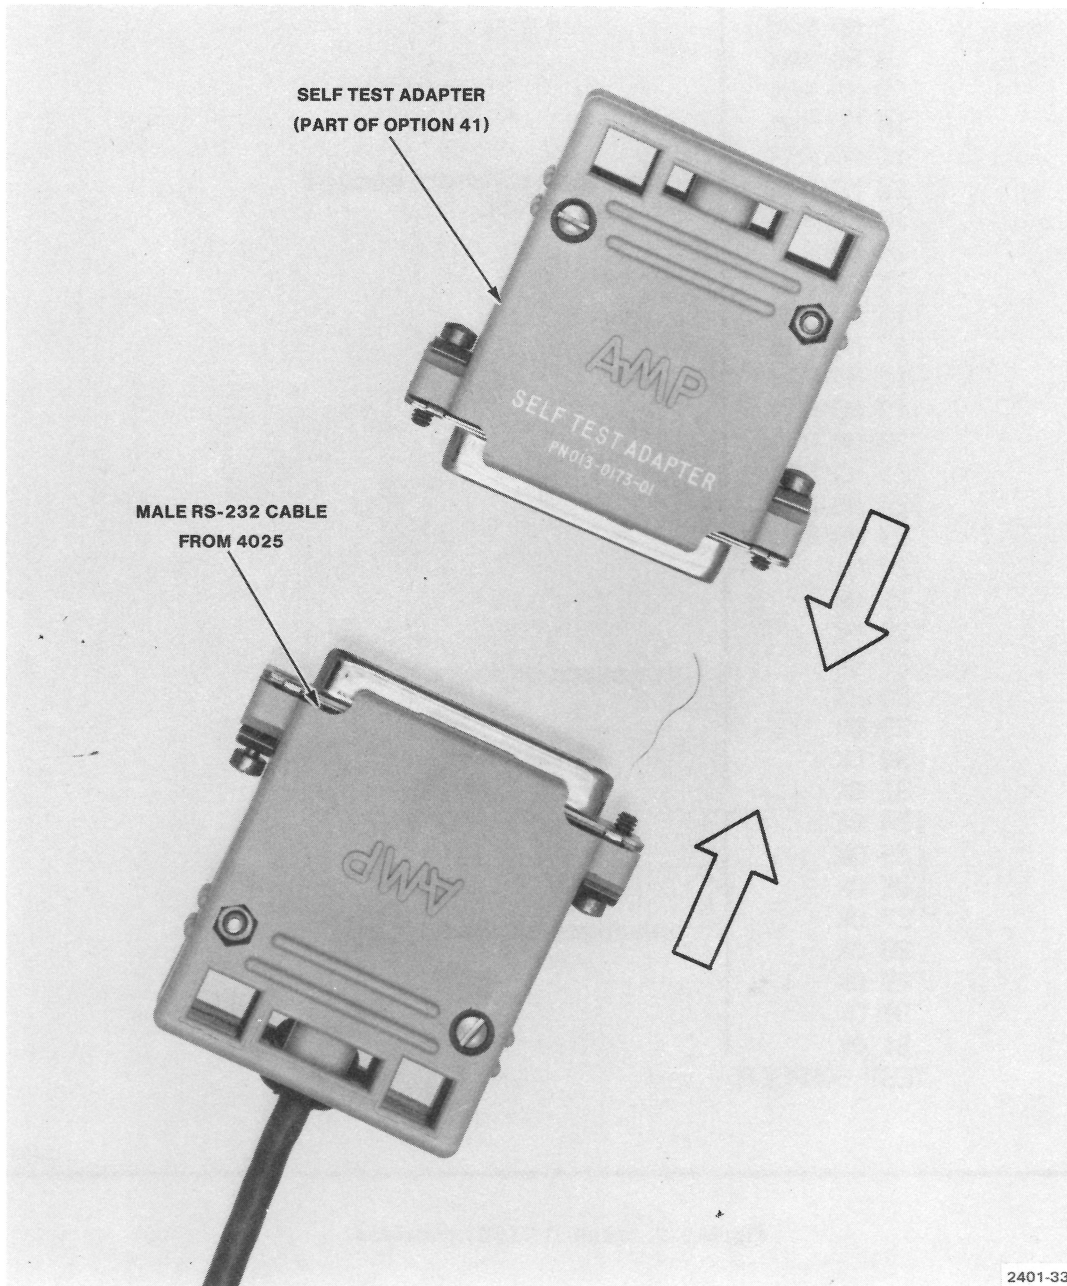
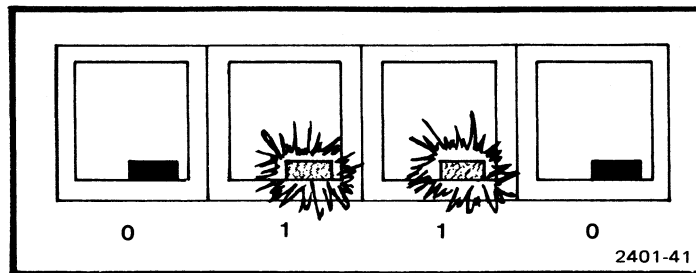

Figure F-3. Connecting the Self Test Adapter.
Figure F-11. Function key lights during sixth part of test.
1. Disconnect the 4025 from the computer, and connect the special Self Test Adapter to the 4025's RS-232 cable, as shown in Figure F-3.
8. Check to be sure that the special Self Test Adapter is installed as shown in Figure F-3. Then press any key on the keyboard to advance to part six of the test. The 4025 displays the binary numeral (0110) for the number six in its function key lights (Figure F-11), and "Communications test" appears on the screen.